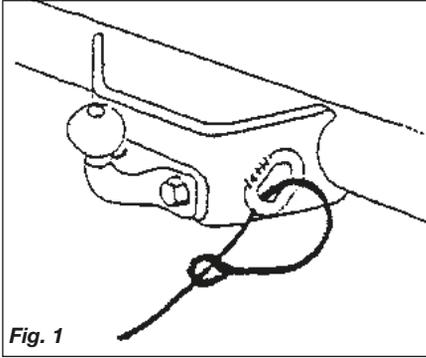
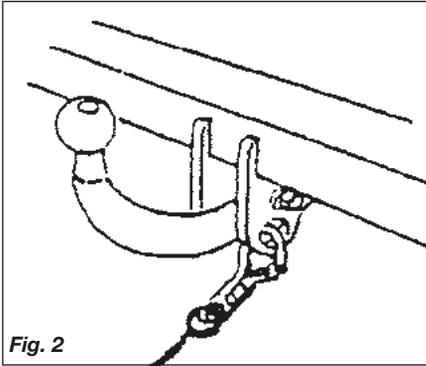

Fig. 1
Fig. 2
Under normal circumstances the inner ring and the outer body will be locked in one position (see fig 1).
WARNING: If the connector is not fully rotated anti-clockwise prior to removing it from the socket it is possible that the inner ring will become 'floating' and may result in a condition where the protrusion will be incorrectly aligned (see fig 2 & 3).
- Either pass the cable through the attachment point and clip it back on itself (Fig 1) or attach it directly to the designated point (Fig 2).